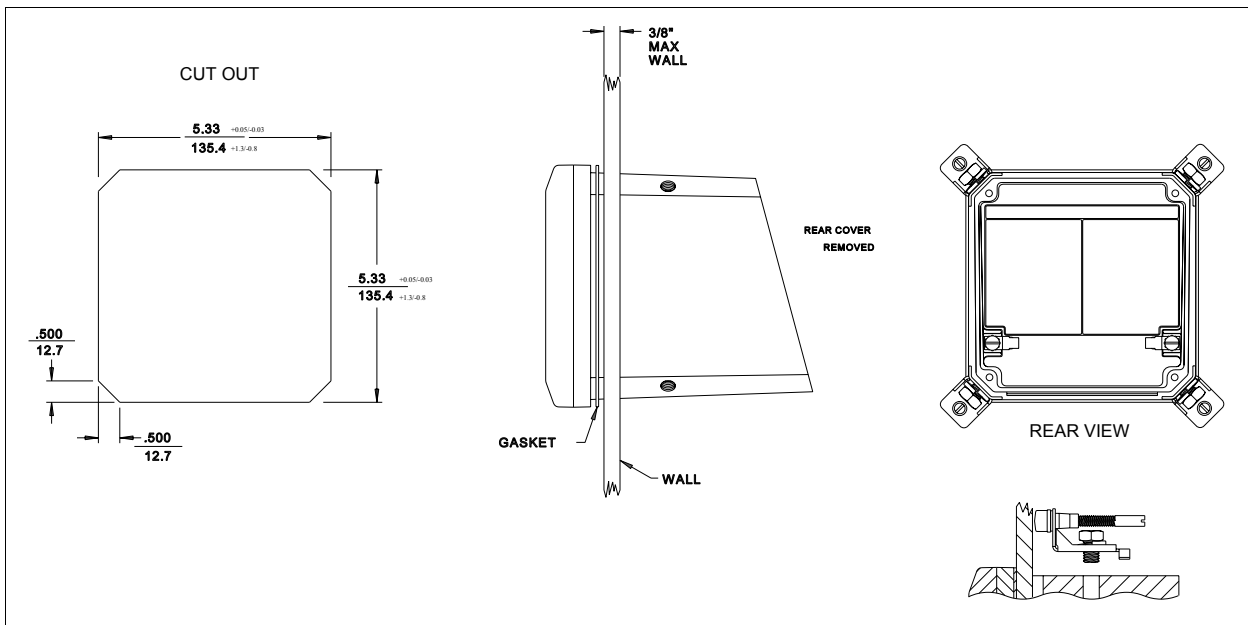

Figure 3-5. Panel Mount Installation Diagram
Using Figure 3-5 as a reference, mount the TB84EC analyzer as follows:
- 2) Cut a 135.4 mm x 135.4 mm hole with diagonal corners through the panel as shown in Figure 3-5.